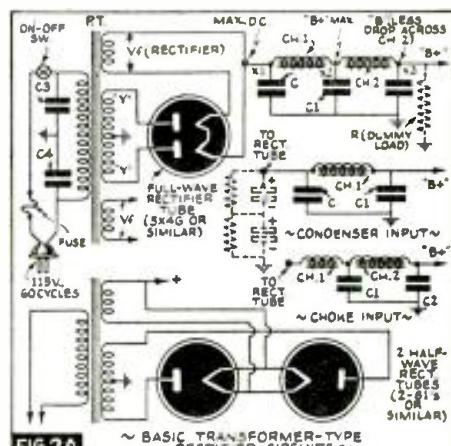

FIG. 2A ~ BASIC TRANSFORMER-TYPE RECTIFIER CIRCUITS
- (a) Transformer, and either full-wave or half-wave rectifier tubes, as shown in Fig. 2A.
The condenser, C, in the *condenser input* type of circuit must be capable of withstanding the instantaneous peak A.C. input voltages (1.4 times the r.m.s. value indicated on an A.C. voltmeter), and consequently, this is a common point of failure due to insufficient rating. To correct this condition when a sufficiently high-rating condenser is not available, 2 lower-voltage condensers may be connected in series to get the desired result, viz., two 16-mf., 400-working-volts condensers in series in place of one 8-mf., 475-working-volts condenser. When using series condensers for this purpose, they should be shunted by equal, high resistances to equally divide the total strain across the 2 condensers; this is shown by dotted lines in Fig. 2A. For the above case, equal resistors of about 50,000 to 100,000 ohms would be satisfactory.